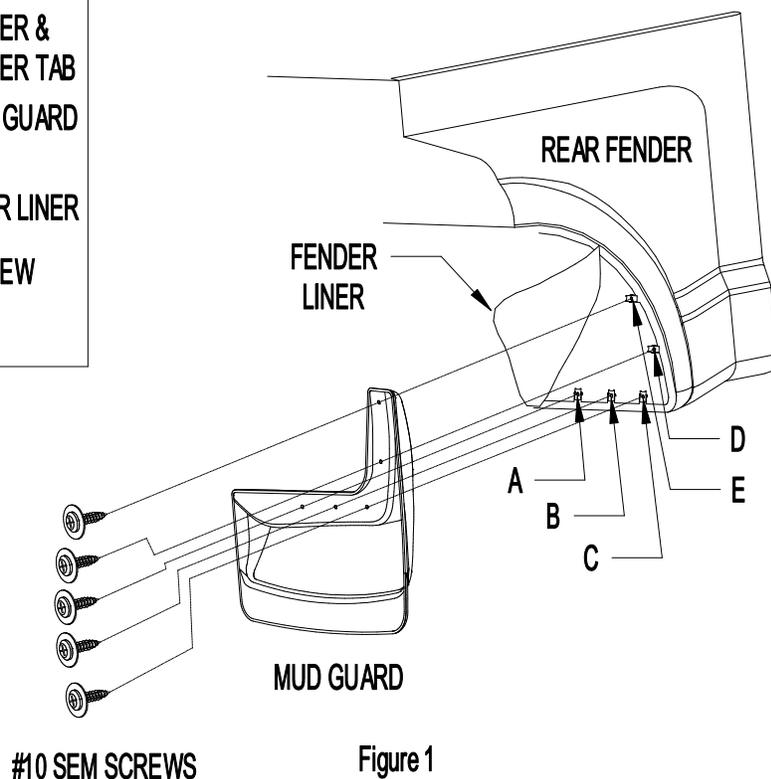

Figure 1
2. Remove existing plastic fasteners from locations A, C, D, and E by cutting off the heads of the fasteners and pushing the remaining piece through the fender tab hole (Figure 1).
4. Pull back fender liner to expose fender tabs (Figure 1 and 3).
6. Place mud guard between fender and fender liner and install a #10 SEM screw through fender liner, mud guard, U-clip and fender tab at locations A, B, C, D, and E (Figure 1 and 2), check fit and alignment before tightening.